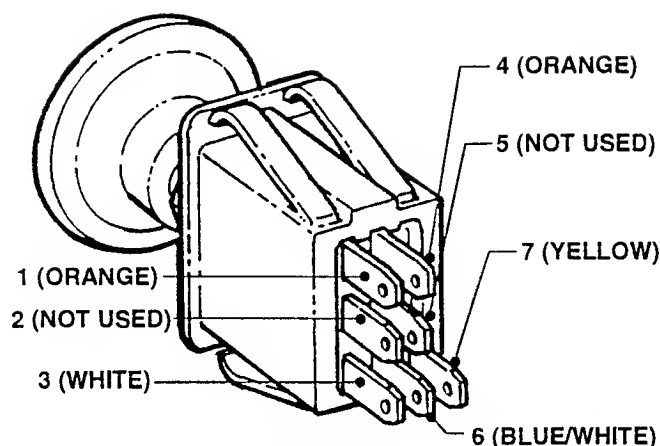

FIGURE 3.7
1. Disconnect Wire Connectors from the Switch Terminals. See Figure 3.7.